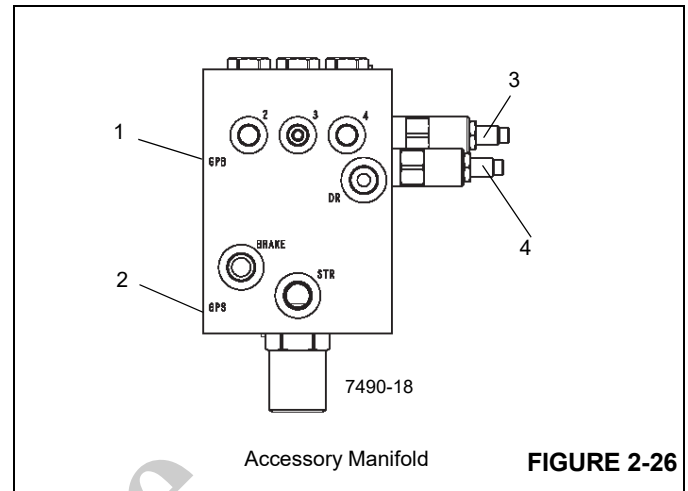

FIGURE 2-26
1. Install a pressure check diagnostic quick disconnect with gauge onto test fitting at the GPS port of the accessory manifold (Figure 2-26).
3. If necessary, adjust pressure at the steering relief valve to 2500 ±50 psi (172 ±4 bar) (Figure 2-26).
1. Install a pressure check diagnostic quick disconnect with gauge onto test fitting at the GPB port of the accessory manifold (Figure 2-26).
3. If necessary, adjust pressure at the brake pressure reducing valve to 3000 ±50 psi (207 ±4 bar) (Figure 2-26).
2. Install a pressure check diagnostic quick disconnect with gauge onto test fitting at GPB port of the accessory manifold (Figure 2-26).